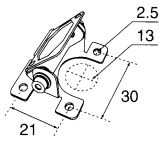

Fig.2/Schéma 2/Fig.2
- 2 Loosen the camera mounting bracket ③ and angle adjustment screw. Determine the attachment angle, and carefully tighten the angle adjustment screw.
- 3 Make a 13 mm hole in the rear bumper camera mounting bracket (see Fig. 2).
- If necessary, use a self-tapping screw ⑫ to fix the camera mounting bracket (In the case of a plastic mount area).